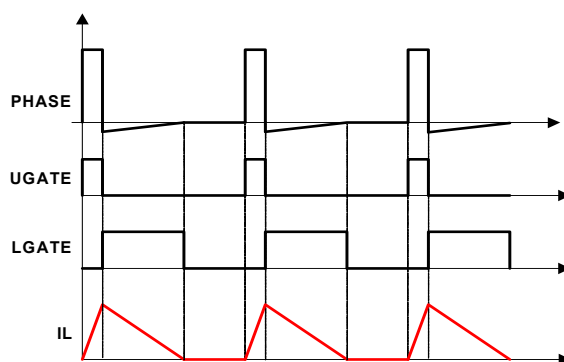

Figure 47. Diode Emulation
The R3 modulator can operate in Diode Emulation (DE) mode to increase light-load efficiency. In DE mode the low-side MOSFET conducts when the current is flowing from source-to-drain and does not allow reverse current, emulating a diode. As shown in Figure 47 on page 66, when LGATE is on, the low-side MOSFET carries current, creating negative voltage on the phase node due to the voltage drop across the ON-resistance. The IC monitors the current by monitoring the phase node voltage. It turns off LGATE when the phase node voltage reaches zero to prevent the inductor current from reversing the direction and creating unnecessary power loss.
If the load current is light enough, as Figure 47 shows, the inductor current reaches and stays at zero before the next phase node pulse, and the regulator is in Discontinuous Conduction Mode (DCM). If the load current is heavy enough, the inductor current never reaches 0A, and the regulator is in Continuous Conduction Mode (CCM) although the controller is in DE mode.